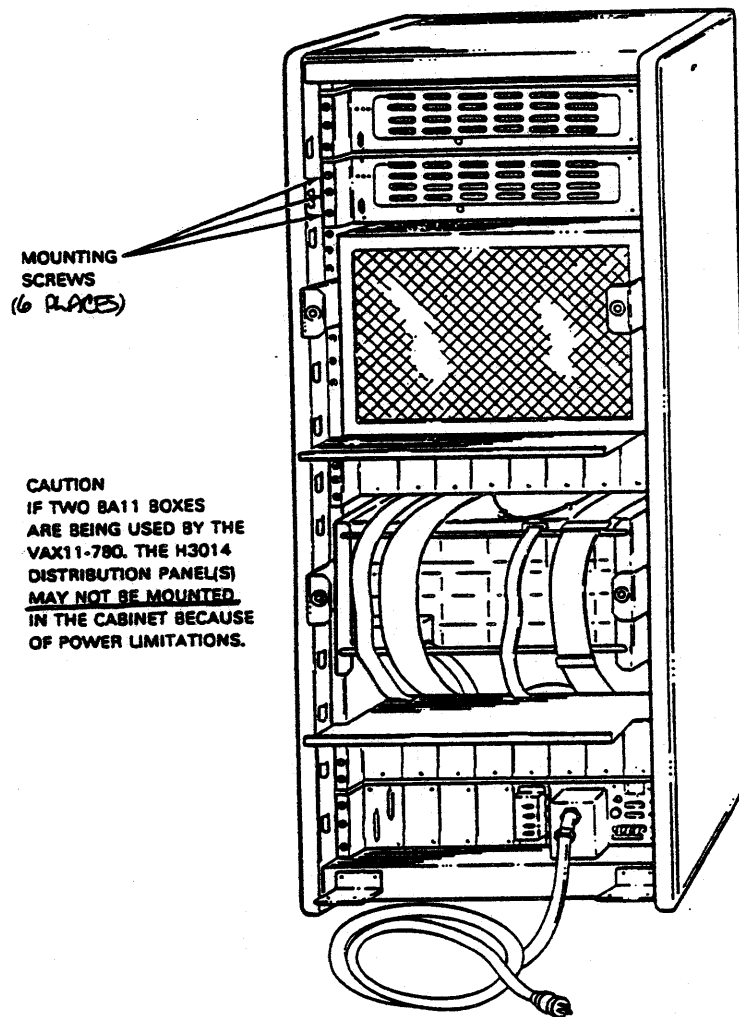

Figure 2-7 Typical H9652-MF (VAX11-780) FCC Shielded Cabinet after H3014 Installation
6. Position the distribution panel and secure it to the cabinet vertical mounting rails using the six philips mounting screws (Figure 2-7).
7. After the distribution panel is mounted, secure the bottom of the distribution panel to the FCC Bulkhead Frame beneath it using the nine (9) philips screws that were removed in step 3.